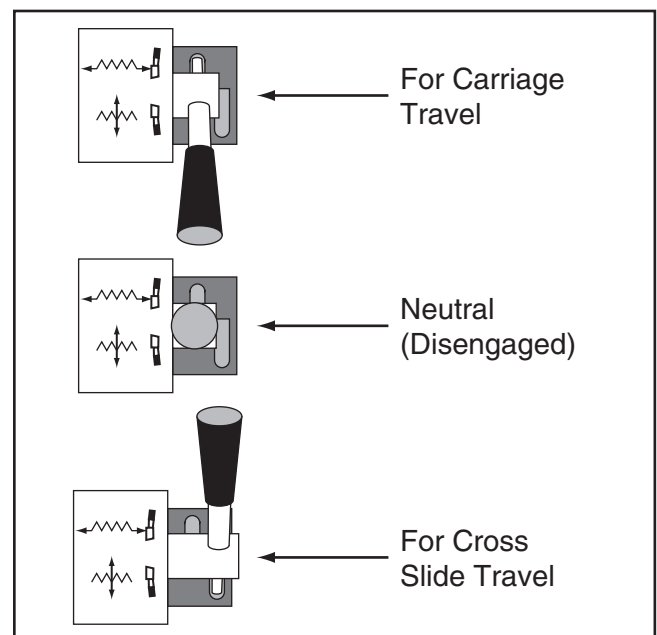

Figure 62. Power feed lever positions.
3. Use the power feed lever on the front of the apron to select powered movement of the carriage or the cross slide (see **Figure 62**).